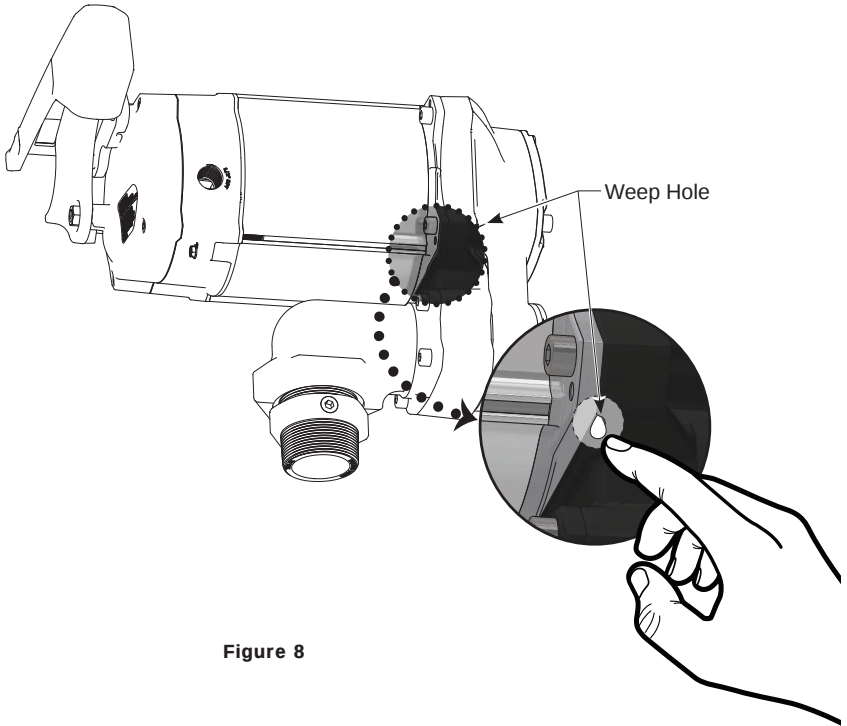

Figure 8
1. Locate small weep hole below the motor housing, on the back of the pump housing to check for a motor shaft seal leak (see Figure 8).